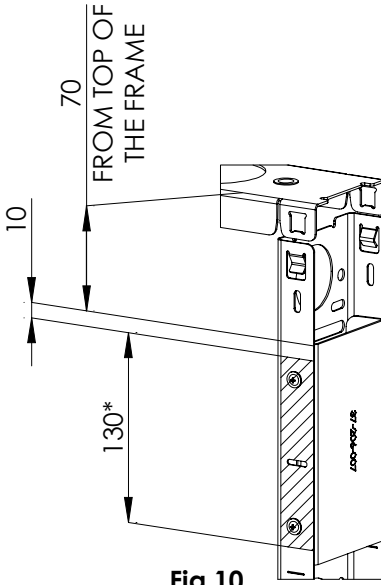
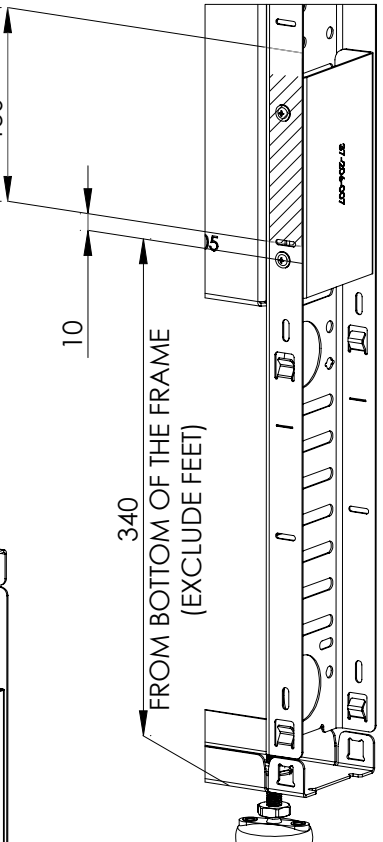

Fig.10
Fig.11
- ii) Refer Fig.10 & Fig.11 for drilling screw (2) & linking bracket (17) positions on the Frame (1).